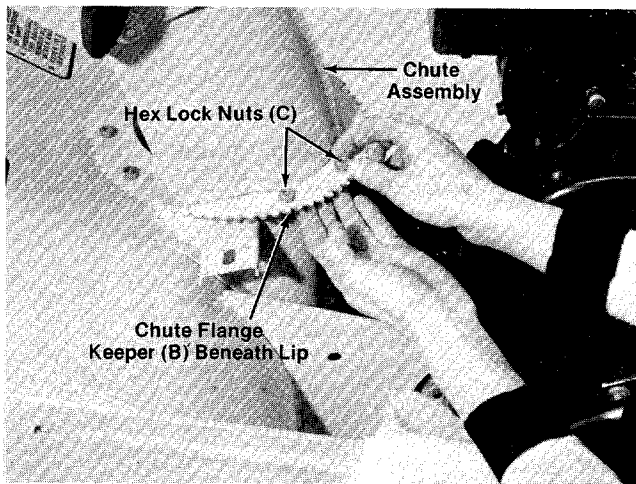

FIGURE 18.
24. Place chute assembly over chute opening. Place chute flange keepers (B) beneath lip of chute assembly. Secure with hex lock nuts (C) as shown in figure 18. Tighten with a 7/16" wrench, then back off 1/4 turn to allow easier movement.